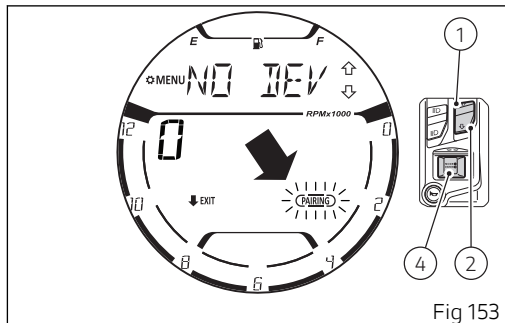

Fig 153
Upon entering the function, use buttons (1) and (2) to select the "PAIRING" item with flashing frame and press button (4) (Fig 153).